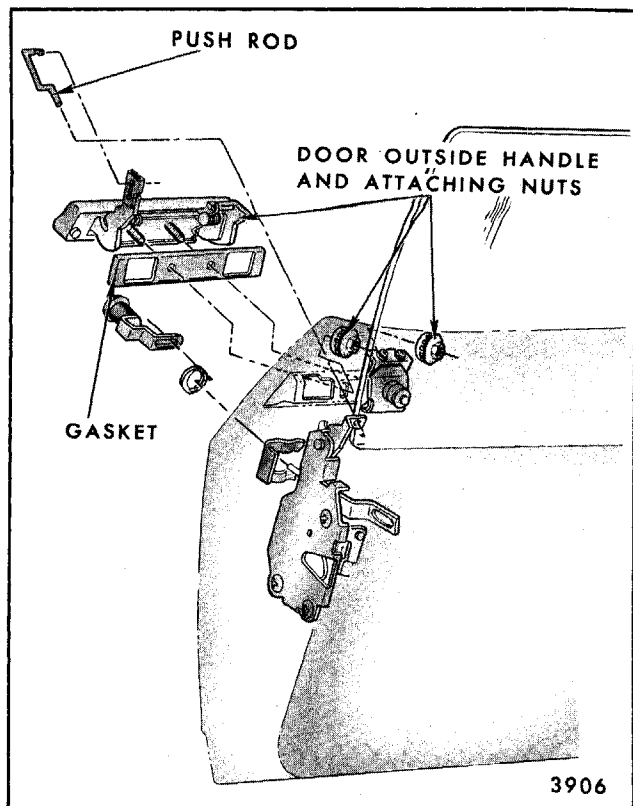

Fig. 5-44-Outside Handle Removal (Lift Bar Type)
- a. On F styles, remove rear guide upper bracket to inner panel and guide assembly attaching screws (item 6 and 7, Fig. 5-77) and remove guide bracket from door. Then, working through access hole, disconnect door outside handle to lock push rod at handle assembly by disconnecting spring clip (Fig. 5-44).